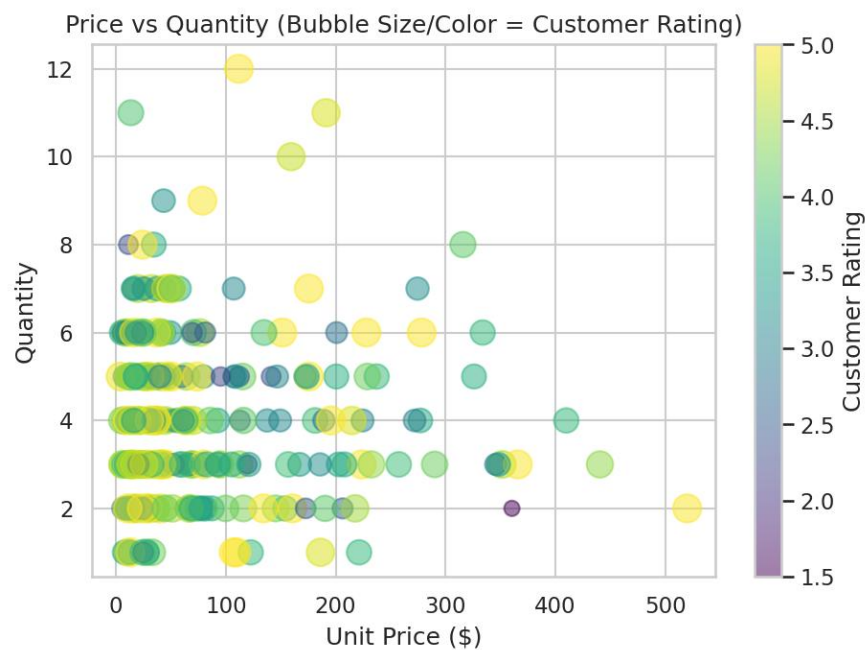
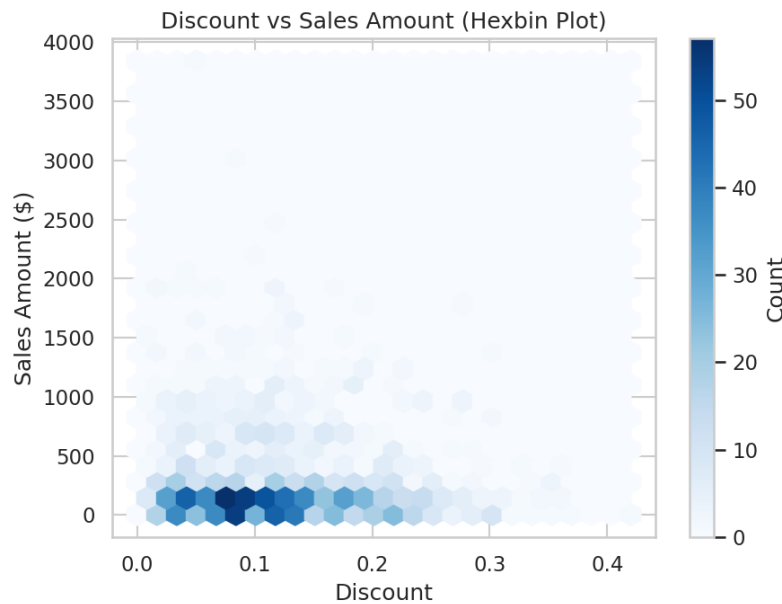

Figure 13: Price vs quantity, bubble size/colour = customer rating (Bubble Chart)
Figure 14: Discount vs sales amount (Hexbin Plot)
- Size does the work in the bubble chart (Figure 13), encoding CustomerRating as a third quantitative dimension alongside price and quantity.
Scatterplot versus bubble chart: a plain scatterplot (Figure 12) works better when only two variables are being related, while a bubble chart (Figure 13) becomes the better fit once a third quantitative variable - rating - needs encoding, even though size is a less precisely judged channel than position. Scatterplot versus hexbin: with 1,500 points, a plain scatterplot already starts overplotting; the hexbin plot (Figure 14) fixes that by binning density, trading individual-point precision for a much clearer picture of where the bulk of transactions actually sit.